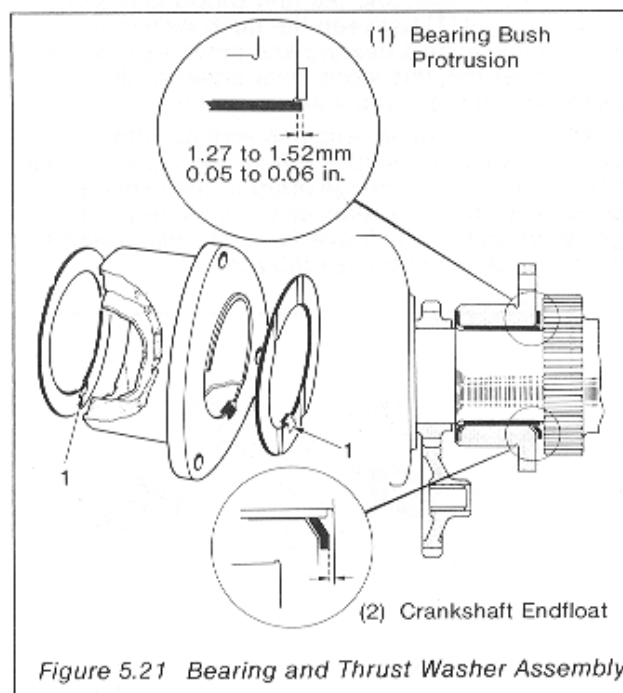

Figure 5.21 Bearing and Thrust Washer Assembly
**5.32** Ensure that the bearing bush at the gear end protrudes between 1.27 to 1.52 mm (0.05 to 0.06 in.) as shown in Figure 5.21(1). This assists in the correct positioning of the outer thrust washer when the crankshaft gearwheel is fitted. Do not exceed the maximum protrusion.
- (1) Fit timing cover backplate (if removed).
- (2) Fit the gear end main bearing housing making sure the oil hole is in line with the oil hole in the crankcase. This is simplified by aligning the small cut-away on the bearing housings outer flange with the raised dimple on the timing cover back plate.
- (3) Fit the crankshaft thrust washer making sure that the grooved sides are away from the bearing housing and their tongues located in their respective grooves Figure 5.21 (1). Place a light smear of grease on the back of the thrust washer to hold it in position.
- (4) Check that the crankshaft journal bearing surfaces and oil holes are clean. Place a small quantity of lubricating oil in the gear end bearing and on the crankshaft journal and insert the crankshaft. Take care not to damage the bearing surface whilst entering the shaft. On the PH2 engine ensure that the intermediate main bearing housing is correctly assembled on the crankshaft with the side marked TOP towards the flywheel end.
- (5) Apply a small quantity of lubricating oil to the flywheel end main bearing and crankshaft journal and fit the main bearing housing assembly. Fit an oil seal sleeve to avoid damage to the oil seal when entering over the crankshaft. Tighten down the five securing bolts diagonally.
- (6) With a SAE5 bellhousing fitted, ensure that the oil seal and its bearing face are serviceable. Fit a new gearwheel retaining plate seal and a new sealing washer to the retaining plate bolt.
- (7) Replace the balance weights in their original positions as noted in Paragraph 5.24(6) and torque load the weight securing bolts to 159Nm (117 lbf ft.) for PH1 and 267Nm (197 lbf ft.) for PH2. If new weights are fitted they must be balanced to within 7g (0.25 oz) for PH1 and 14g (0.5 oz) for PH2.
- (8) Fit the intermediate main bearing housing locking screw on the PH2 engine and tighten down.
**5.38** Using a set of feeler gauges check the crankshaft endfloat by measuring between the thrust washer and inner face of the gear as shown in Figure 5.21(2). The endfloat should not exceed 0.63 mm (0.025 in.). The endfloat when new should be 0.20 to 0.050 mm (0.008 to 0.020 in.).